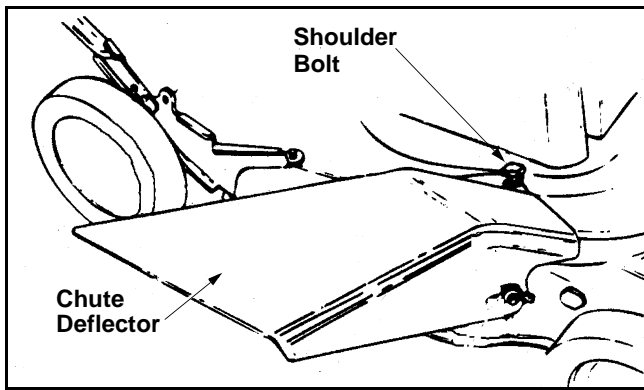

Figure 3
- Slide the notch in the side of the deflector around the front bolt in the side of the deck. Secure the front of the chute deflector to the bolt on the side of the deck with one wing nut. See Figure 3.